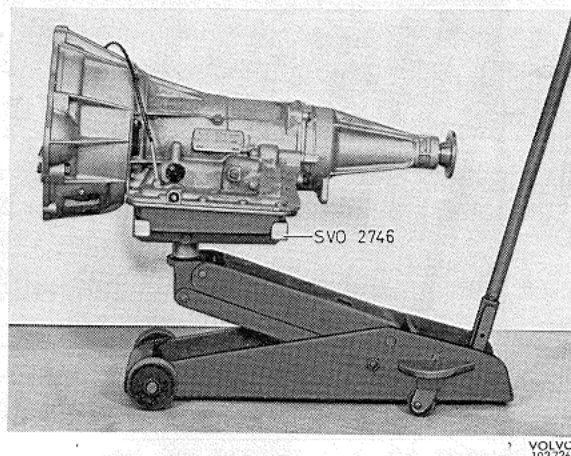

Fig. 36. Fixture for transmission
4. Place a jack and fixture SVO 2746 under the gearbox, see Fig. 36.
8. Disconnect the electric cables from the starter inhibitor. Unscrew the screws for the starter inhibitor. Place a jack with fixture SVO 2746 under the gearbox. See Fig. 36. Unscrew the attaching bolts for the converter casing. Pull the gearbox backwards and release the guide pin on the converter at the same time. Lower and remove the gearbox.